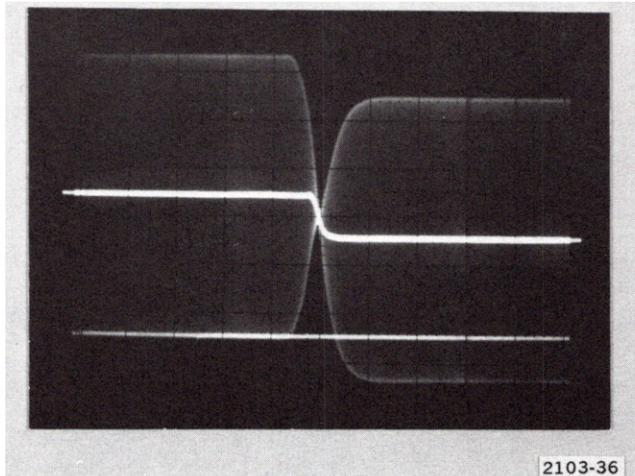

Fig. 2-4. Waveform monitor display showing minimum chrominance-to-luminance delay.
- e. CHECK—that chrominance-to-luminance delay does not exceed 20 ns (1 minor horizontal graticule division). Delay will be indicated by any separation between the chrominance and luminance transition midpoints (see Fig. 2-4).